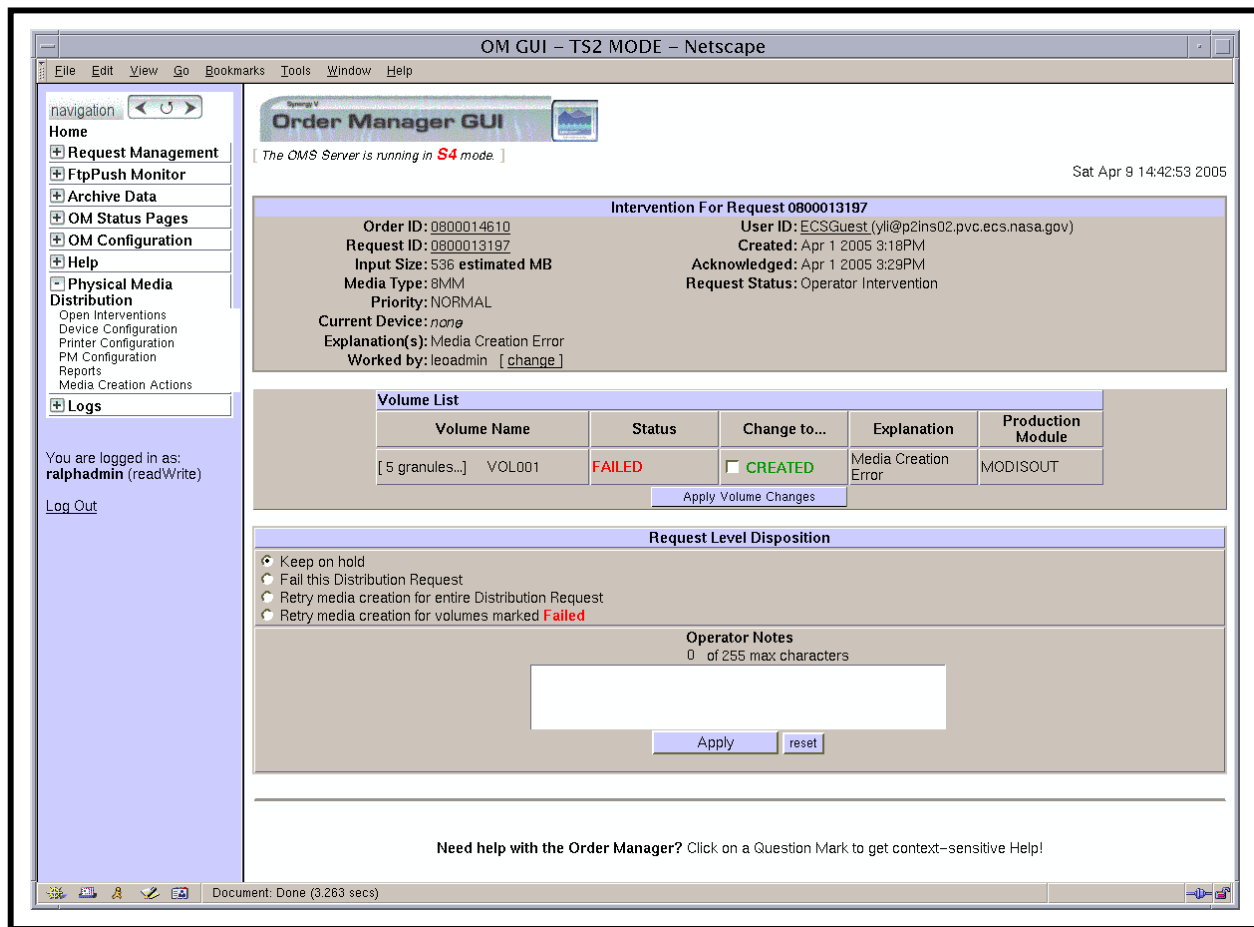

Figure 74. PMD Open Intervention Detail (Intervention for Request X) Page
- For example, clicking on Request ID **0800013197** brings up a **PMD Open Intervention Detail** page (i.e., **Intervention for Request 0800013197**) (Figure 74).
- 9 Observe information displayed on the **PMD Open Intervention Detail** page (Figure 74).
- The following items are displayed on the **PMD Open Intervention Detail** page (Figure 74).
- The **PMD Open Intervention Detail** page (Figure 74) is dismissed.
The **PMD Open Intervention Detail** page (Figure 74) provides the full-capability operator with a means of performing the following kinds of interventions:
- The **PMD Open Intervention Detail** page (Figure 74) is being displayed on the **OM GUI**.
- If the **PMD Open Intervention Detail** page (Figure 74) is not being displayed on the **OM GUI**, go to the procedure for **Viewing PMD Open Intervention Information on the OM GUI** (preceding section of this lesson).
- 1 Observe the information displayed in the **Worked by:** field of the **PMD Open Intervention Detail** page (Figure 74).